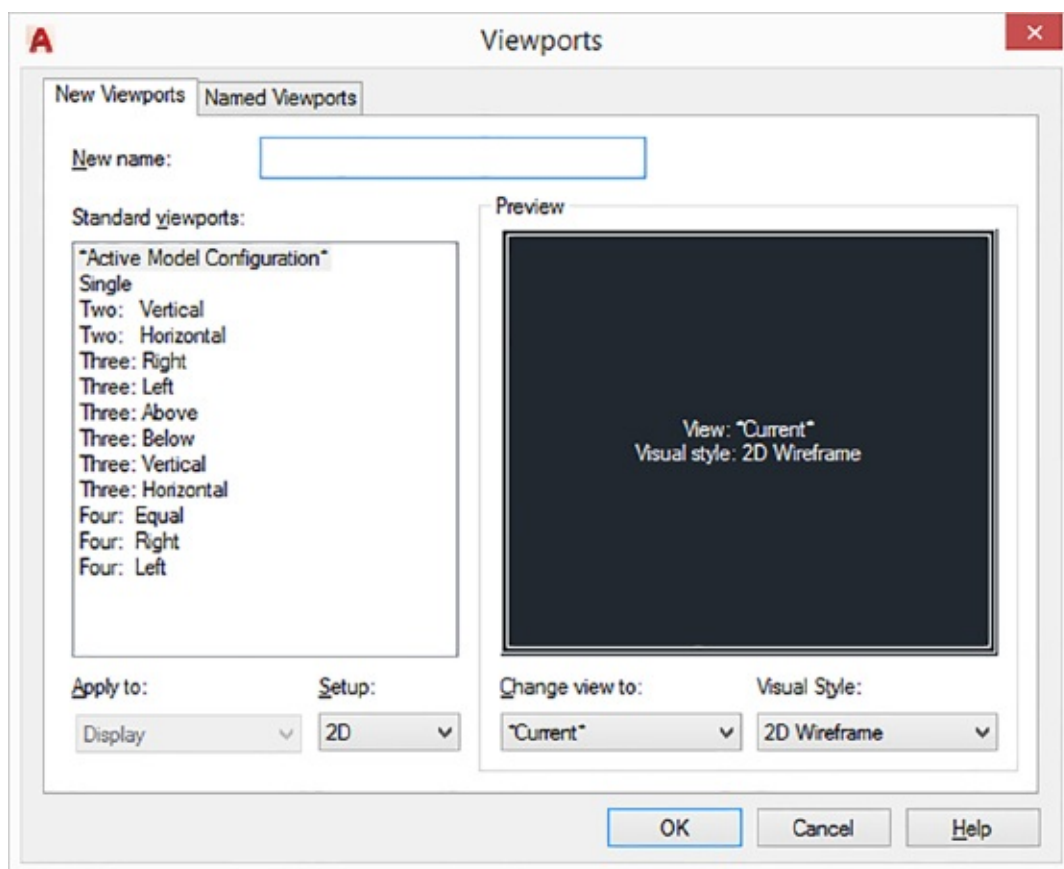

FIGURE 21.20 The Viewports dialog box
1. Click the Named tool in the Visualize tab’s Model Viewports panel to open the Viewports dialog box (see Figure 21.20).